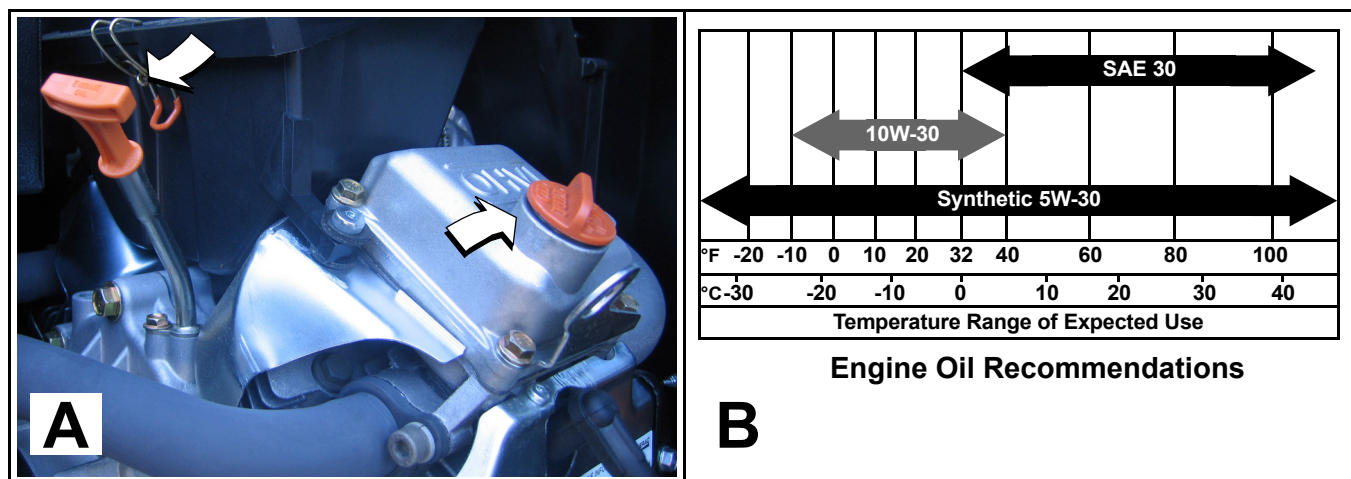

Figure 4-1. Check Engine Oil Level
1. Remove dipstick and wipe with a clean cloth. See A of Figure 4-1.
4. If necessary, remove the oil fill cap and slowly add the recommended type of oil until the level is at the FULL mark. **DO NOT OVERFILL.** See B of Figure 4-1.
See B of Figure 4-1. Select the oil viscosity grade according to the expected operating temperature.
9. Remove oil fill cap and fill engine with the recommended oil. See Figure 4-1.